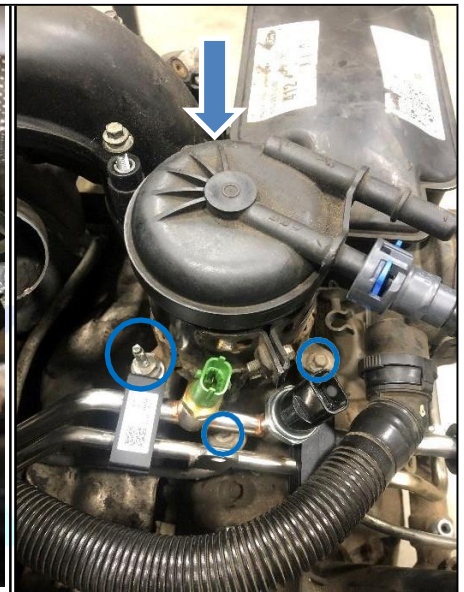

Figure 3: Fuel Filter housing removal
- To gain extra clearance for removing the intake manifold, disconnect the fuel filter housing. There are 4 bolts to remove (see Figure 3). You might need to push or rotate the fuel hardline upwards to access the bolt underneath. Once the fuel line is detached, place it back on the lower hardline to keep it clean. Be cautious to avoid introducing any debris into the filter or fuel line.